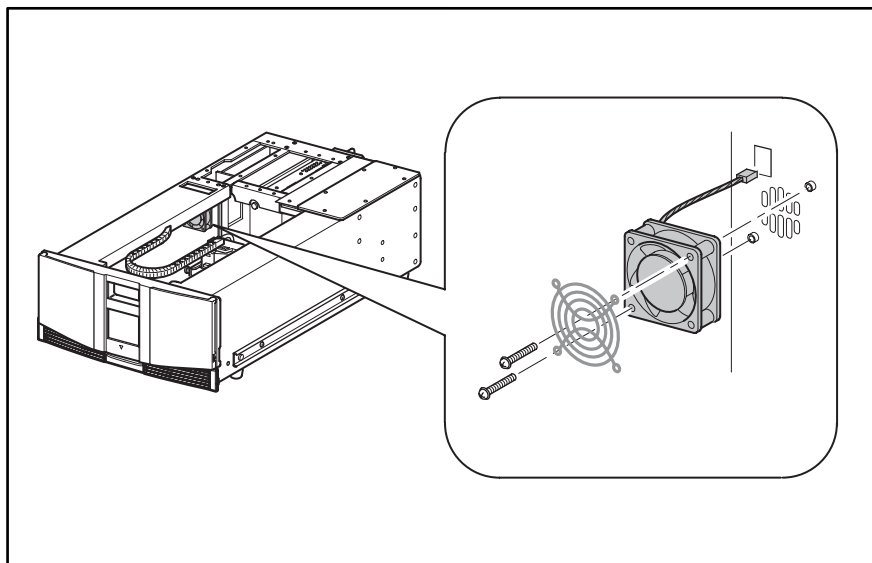

Figure 2-24: Removing the backplane fan
7. Remove the two screws that secure the backplane fan to the standoffs (see Figure 2-24).
8. Pull the backplane fan straight off of the standoffs while guiding the fan cable out through the cable access hole (see Figure 2-24).
9. Remove the backplane fan from the library (see Figure 2-24).
1. Position the backplane fan inside the left magazine area with the cable at the top left corner. The airflow direction is from the main chassis area into the card cage/backplane assembly connector area (see Figure 2-24).
2. Install the backplane fan over the two mounting standoffs while guiding the cable through the cable access hole into the card cage/backplane assembly area (see Figure 2-24).
3. Install the two screws that secure the backplane fan to the standoffs (see Figure 2-24).
4. Replace the cable at connector J11 on the card cage/backplane assembly (see Figure 2-24).